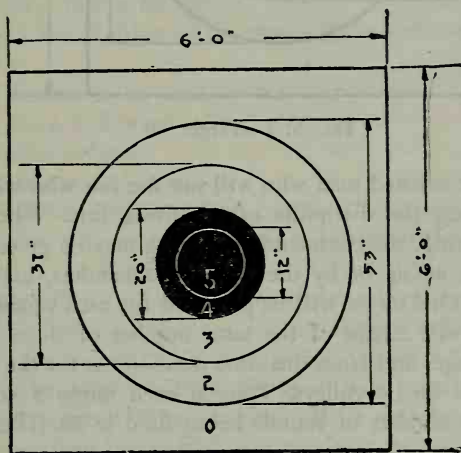
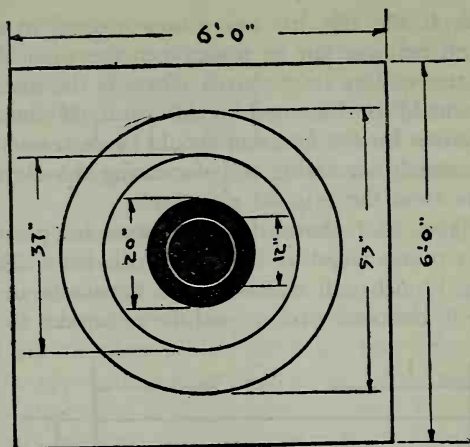

FIG. 51-2—Pistol target.
FIG. 51-3—Target "B."
**Targets.**—Figure 51-2 shows the target used for pistol firing. For the marksman's course target A is used, which has a 20-inch bull's-eye. The inner 12-inch bull counts 5, the remainder of the bull 4, the inner circle 3, the outer circle 2, and the remainder of the target 0.
Figure 51-3 shows the target used for the sharpshooter's and expert's courses. It is the same size as Fig. 51-2. A hit in the bull counts 5, in the inner circle 4, outer circle 3, and the remainder of the target 2. A hit within the 12-inch circle in the bull is scored as a V, which is the same as 5 but is used for breaking ties. Thus, if two riflemen both made perfect scores, the one having the most V's is the winner.